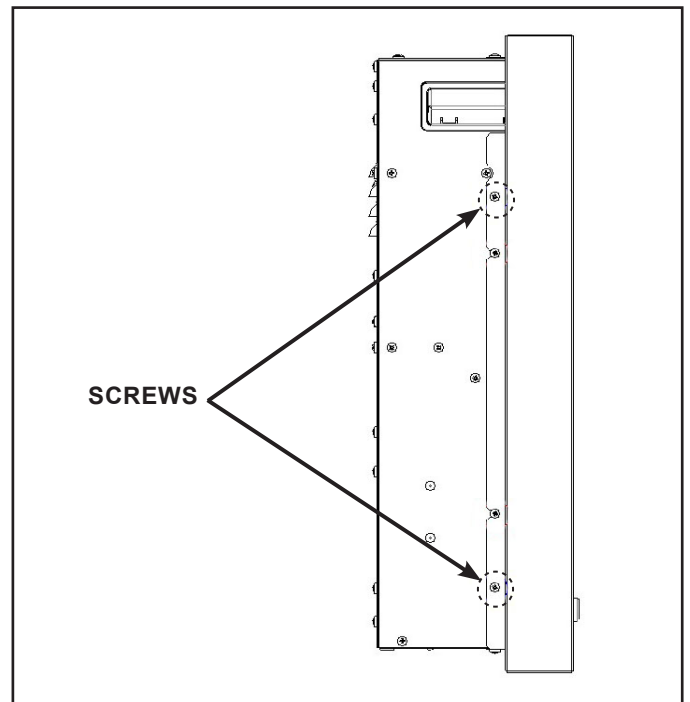

Figure 5 Secure Side Trim Skirt to Appliance
5. Fasten the side trim skirt to the appliance by replacing the two screws removed in Step 1. See Figure 5.